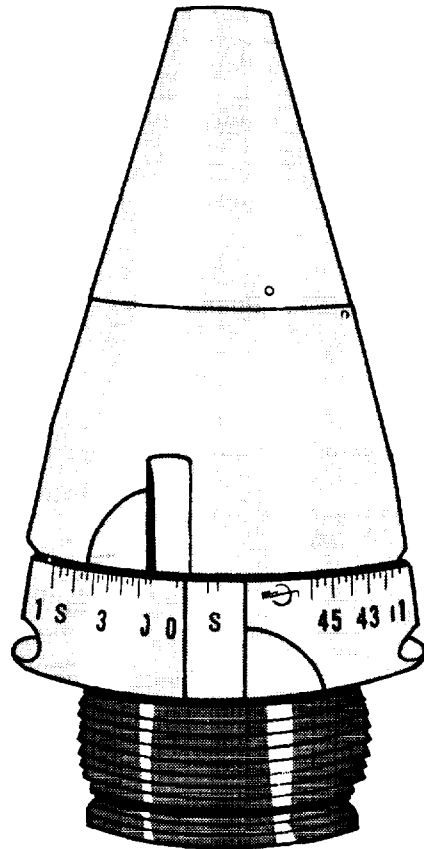

Figure 3-1. Mechanical Time Fuze Mk 25 Mod 5, External View
b. Mod 5, figures 3-1 and 3-2, is